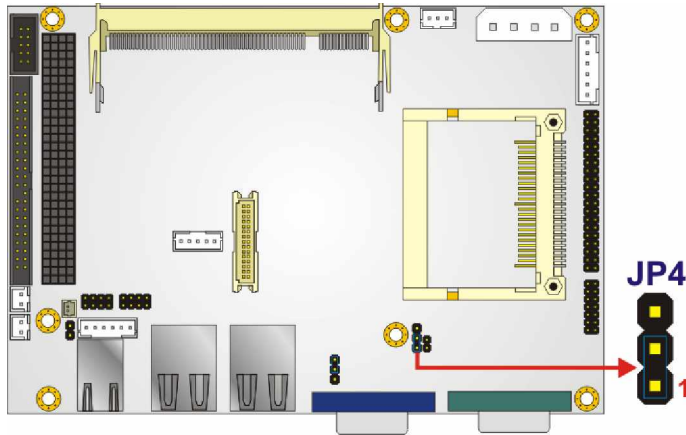

Figure 5-7: COM Port Setting Jumper Location
- Jumper Location:** See Figure 5-7
The COM Port Setting jumper location is shown in Figure 5-7 below.